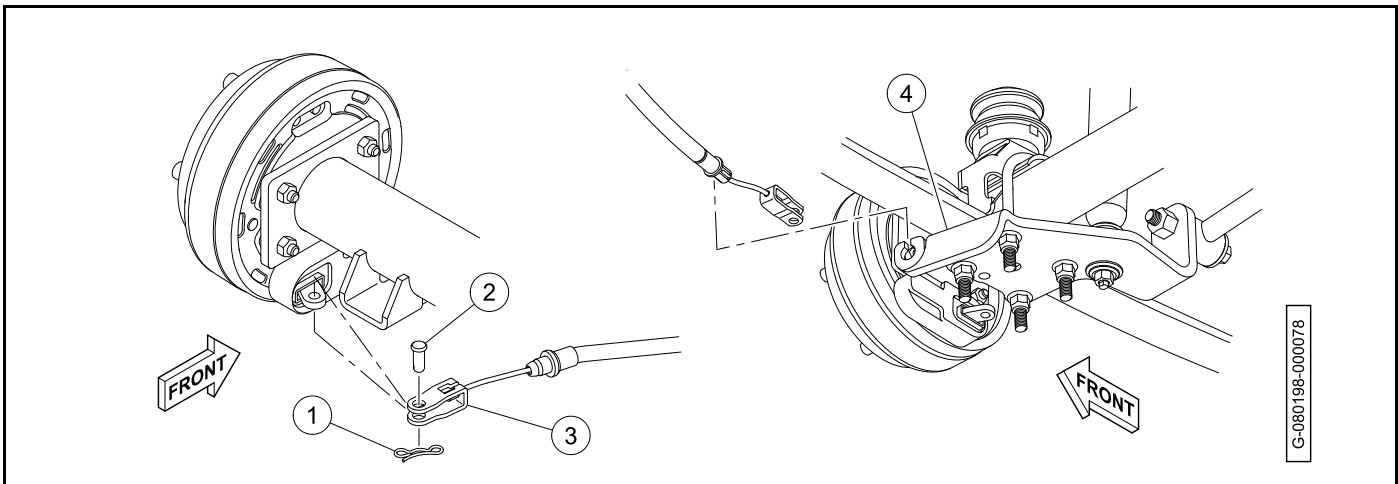

Figure 9-13
6. Remove the bow tie locking pin (1) and the clevis pin (2) (Figure 9-13).
6. Remove the bow tie locking pin (1) and the clevis pin (2) (Figure 9-13, Page 9-12).